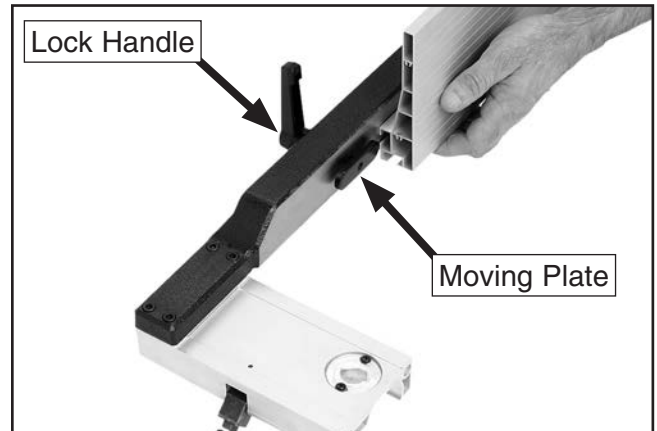

Figure 16. Installing resaw fence.
23. Insert lock handle with washer through hole in fence and attach moving plate (see **Figure 16**) on other side.
24. Slide resaw fence over moving plate as shown in **Figure 16**. Center it with original fence, then lock it in position by tightening lock handle.